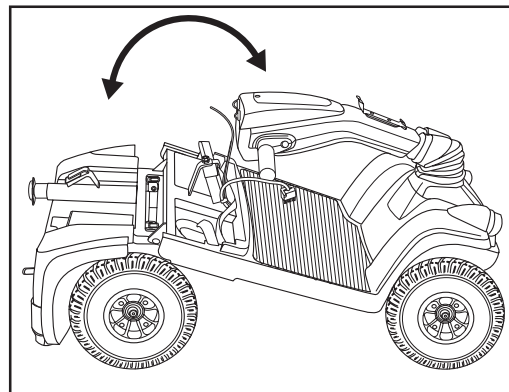

Figure 17. Frame Positioning
2. Push back on the seat post to pivot the scooter's rear section rearwards until the rear section is standing vertically on its bumper. See figure 17.
3. Holding the seat post, slowly pivot the rear section forward until the curved locking brackets are fully connected onto the top rear pegs. See figure 17.